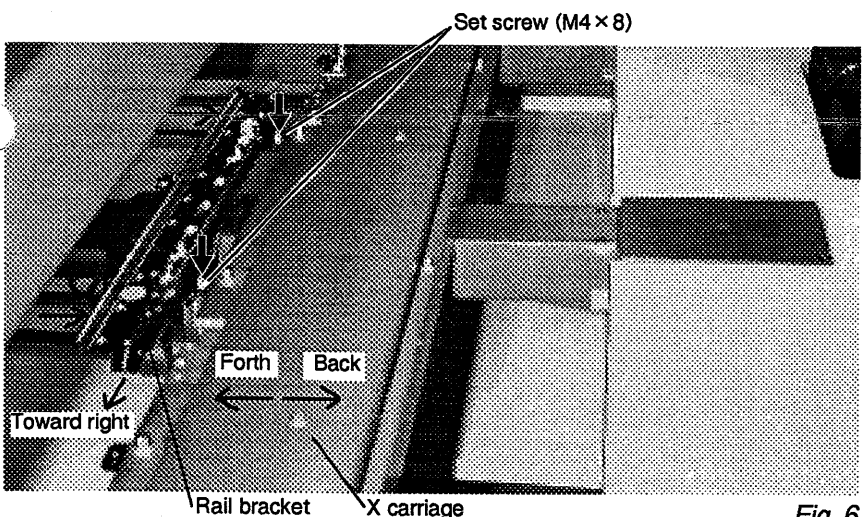

Fig. 6
10. Tighten set screw on cap drive frame assembly firmly, which was once lightly tightened in 7. above. At this moment, move rail bracket toward X carriage as shown in Fig. 6, then tighten fixing screw proving rail bracket further toward right.
11. As shown it Fig. 6, move X carriage back and forth and confirm If you feel X carriage extremely heavy or if it doesn't get caught, comparing it before you placed cap drive frame assembly. If you have some problem, repeat this work from the outset.